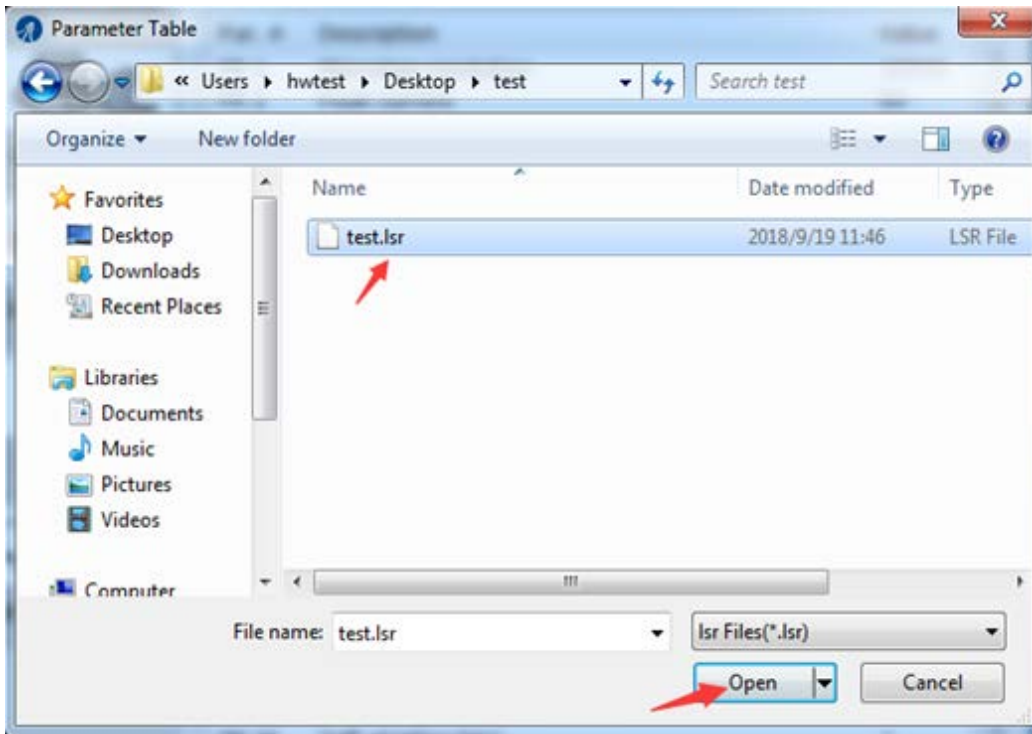

Figure 20: open an .lsr configuration file window
- Click **Project->Open** menu item. The File Open window will be displayed (Figure 20).